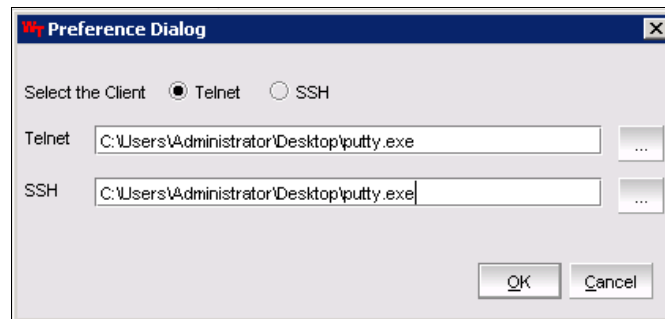

Figure 8-102 Telnet/SSH Preference Dialog box
2. In the Preference Dialog box, shown in Figure 8-102, select either the Telnet or SSH client, and provide the path to the client utility (for example, PuTTY). Then, click **OK**.